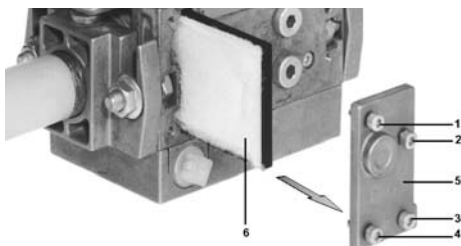

Fig. 21
- 2 Remove screws 1 ÷ 4 using the Allen key n. 3 and remove filter cover 5 in Fig. 21.